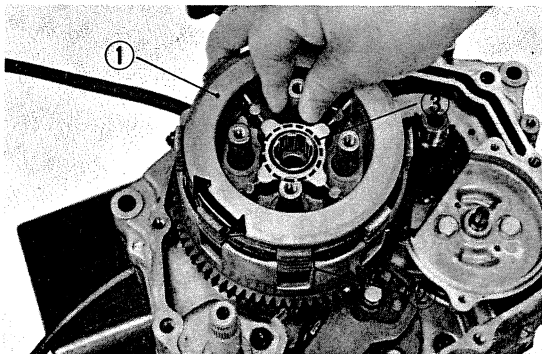

Fig. 69 Clutch installation
- 3) Assemble the friction discs and clutch plates alternately on the clutch center. Assemble the clutch plates and make the assembly after aligning the splines. (Fig. 69)